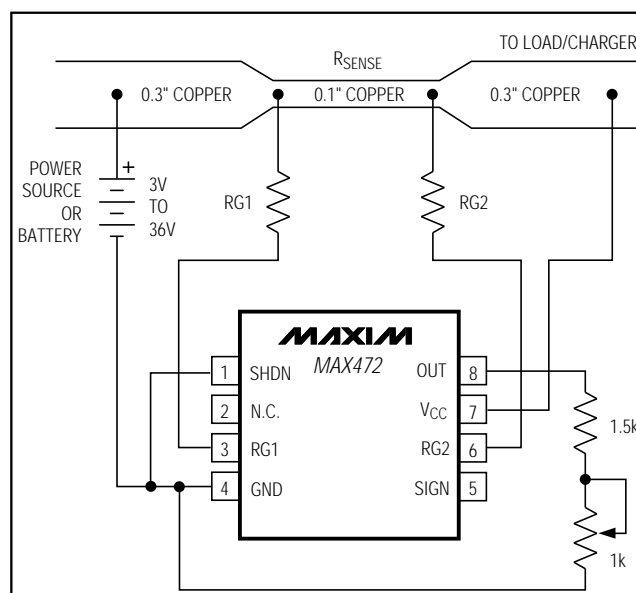

Figure 6. MAX472 Connections Showing Use of PC Board Trace
- Cost:** If the cost of R_{SENSE} becomes an issue, you may want to use an alternative solution, as shown in Figure 6. This solution uses the PC board traces to create a sense resistor. Because of the inaccuracies of the copper "resistor," you will need to adjust the full-scale current value with a potentiometer. Also, the resistance temperature coefficient of copper is fairly high (approximately 0.4%/°C), so systems that experience a wide temperature variance should take this into account.
In Figure 6, assume the load current to be measured is 10A and that you have determined a 0.3 inch wide, 2 ounce copper to be appropriate. The resistivity of 0.1 inch wide, 2 ounce copper is $30\text{m}\Omega/\text{ft}$ (see Note 4). For 10A you may want $R_{\text{SENSE}} = 5\text{m}\Omega$ for a 50mV drop at full scale. This resistor will require about 2 inches of 0.1 inch wide copper trace.